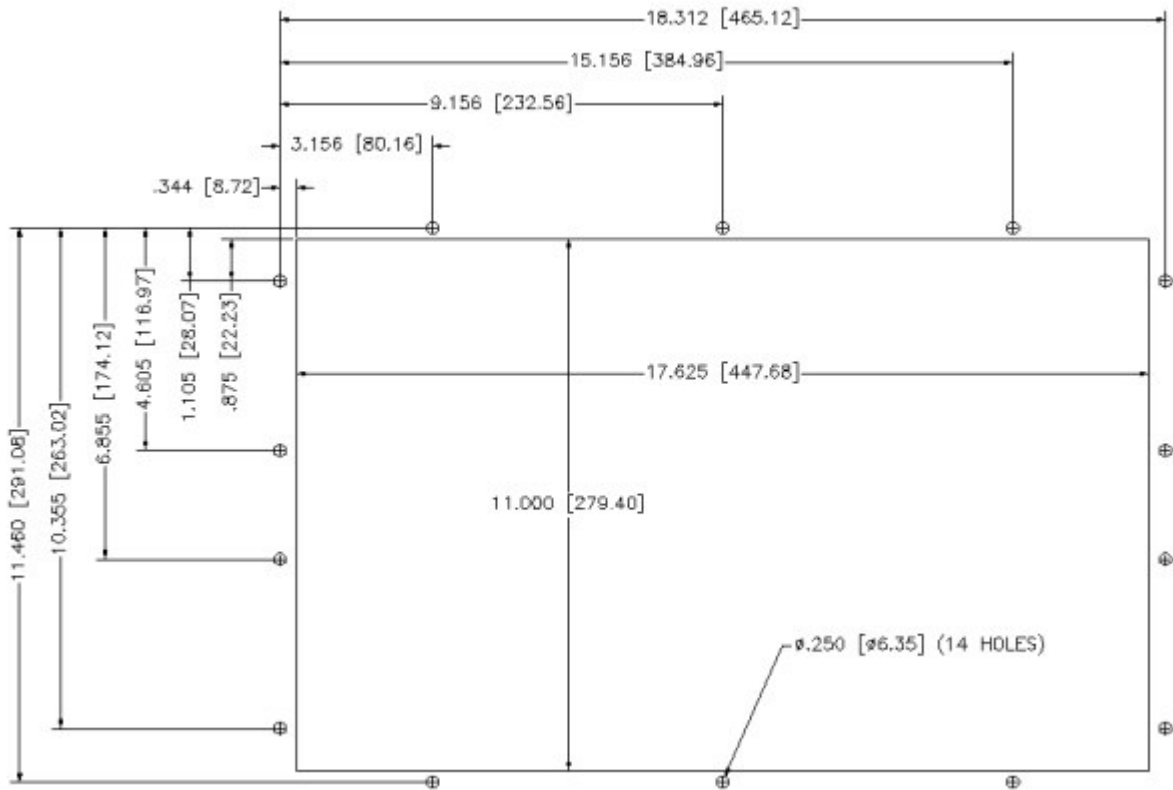
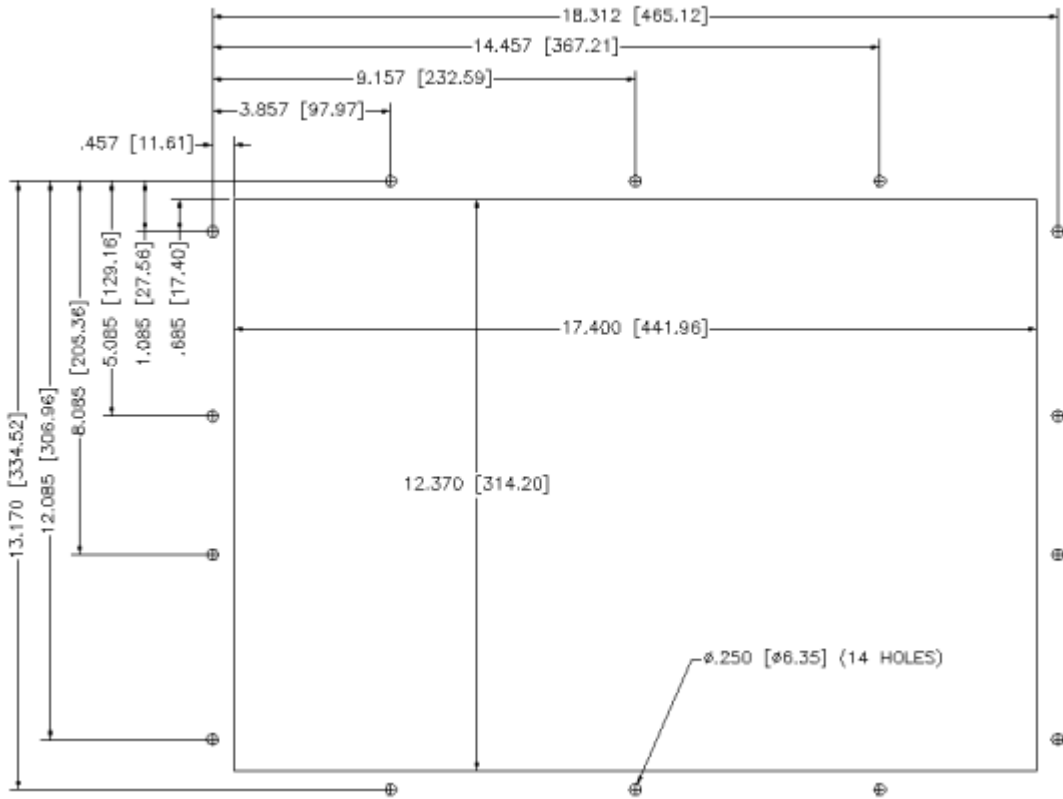

Figure 2-1. 3712KPM(T) System Cutout Dimensions (inches [mm])
Figure 2-2. 3715T & 3715KPM(T) System Cutout Dimensions (inches [mm])
2. Create a cutout in the enclosure (see Figure 2-1 and Figure 2-2 in *System Cutout Dimensions*).
Figure 2-1 shows the system cutout dimensions for the 3712KPM(T). Figure 2-2 shows the system cutout dimensions for the 3715KPM(T).